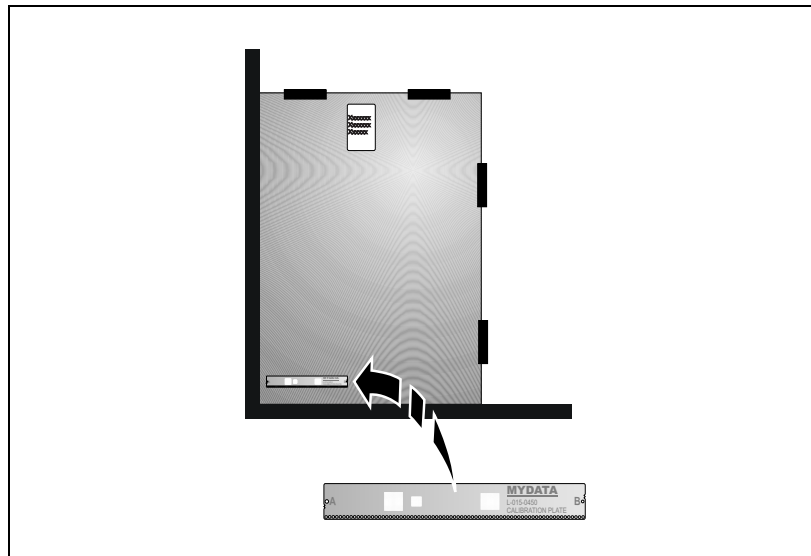

Figure 4-3. Calibration board (L-015-0450).
- When prompted, place the area calibration plate (L-015-0450) on the calibration background plate, see Figure 4-3. Set it approximately aligned to the X axis.